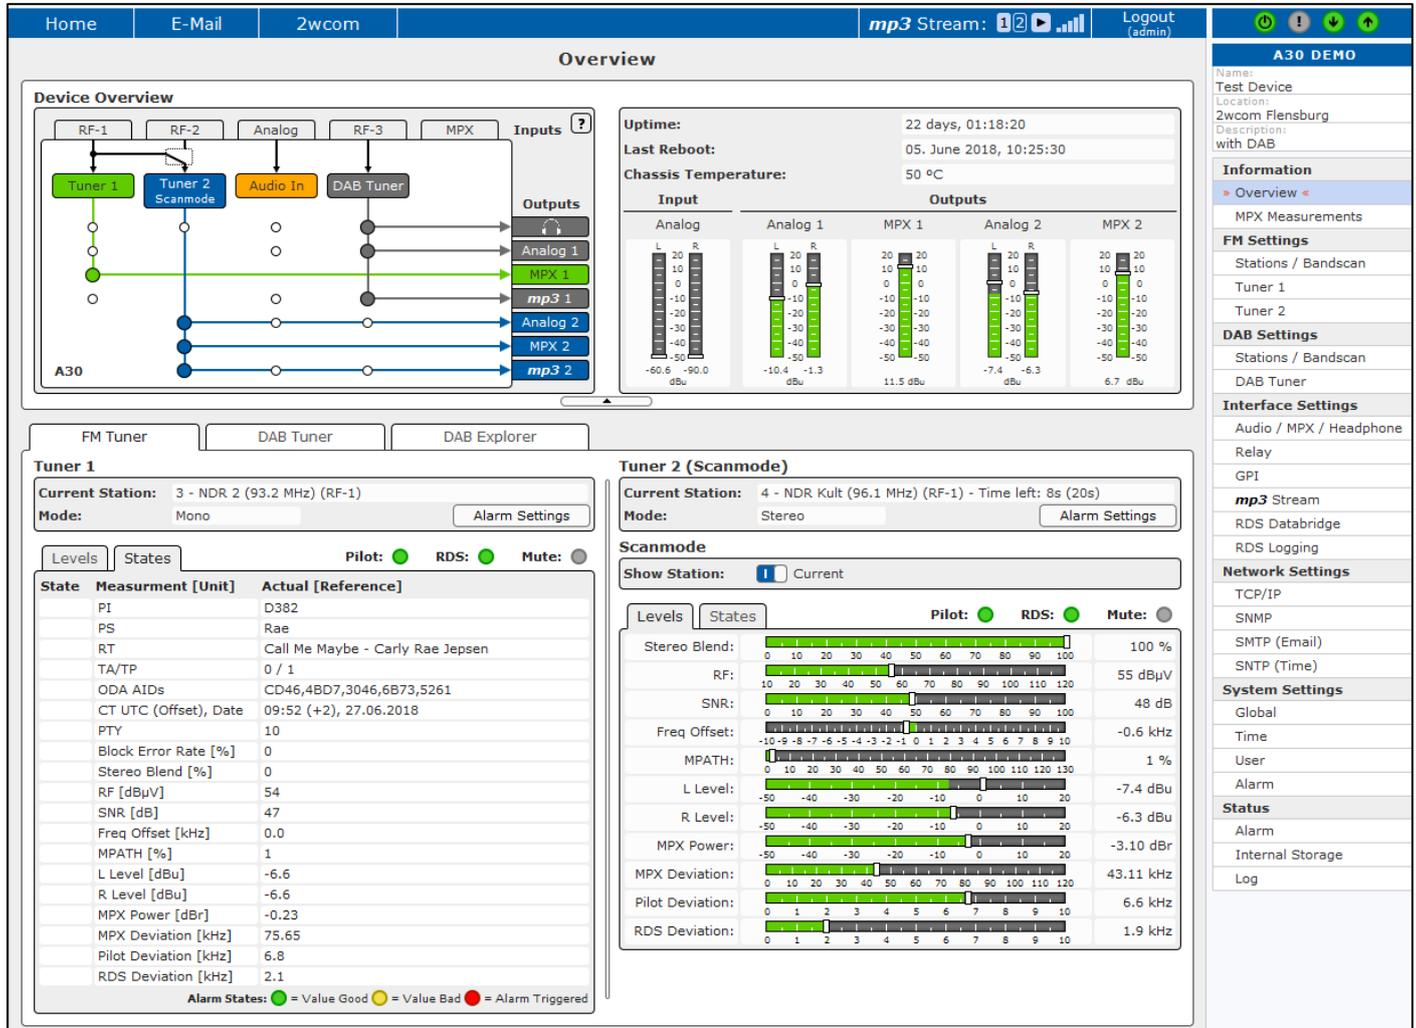

Fig. 16: Information - Overview of the Tuner 1 and Tuner 2 levels:
1. Under **Information**→**Overview** you can view the current details about the activated inputs, internal audio signal and the status of the tuner (see **Fig. 16**)
4. In the same menu under **Information**→**Overview** in "Tuner 1" and "Tuner 2" block you can see levels of the configured tuner parameters (see **Fig. 16**).